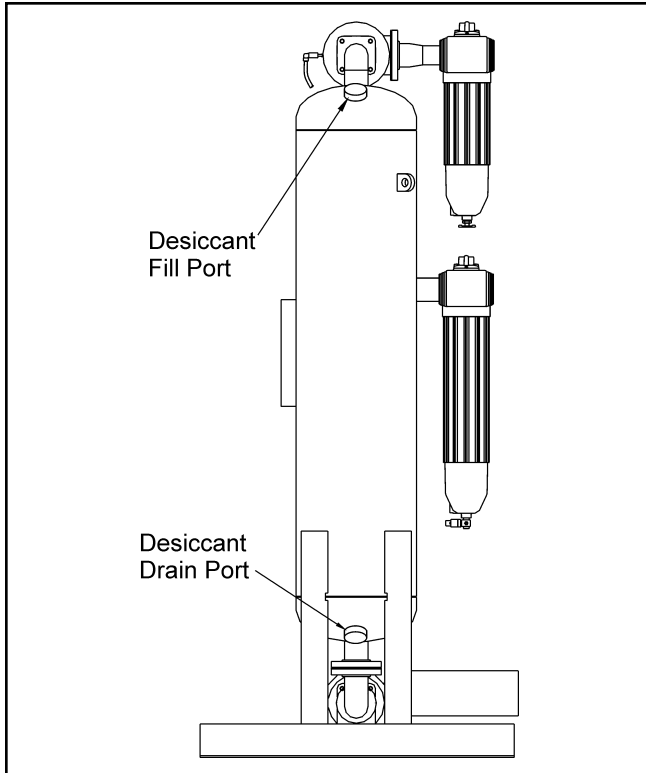

Figure 6
6. Remove desiccant drain plug (refer to Figure 6).